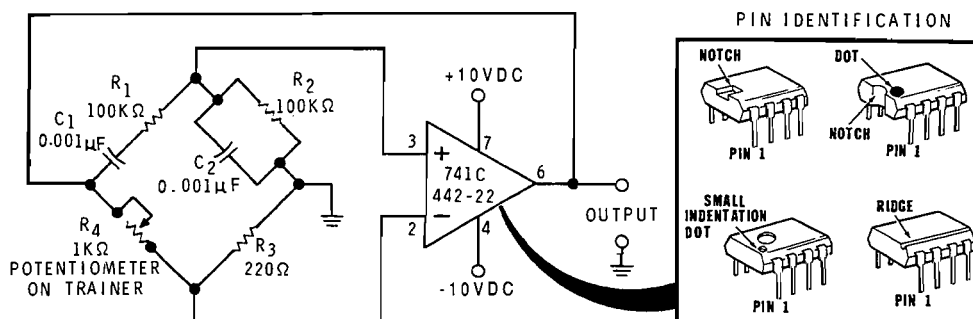

Figure 5-59
1. Turn on the Trainer and adjust the (+) and (−) power supply voltage controls for 10 VDC. Turn off the Trainer. Construct the circuit shown in Figure 5-59. Connect the 1 kilohm potentiometer on the Trainer for minimum resistance when adjusted CCW.